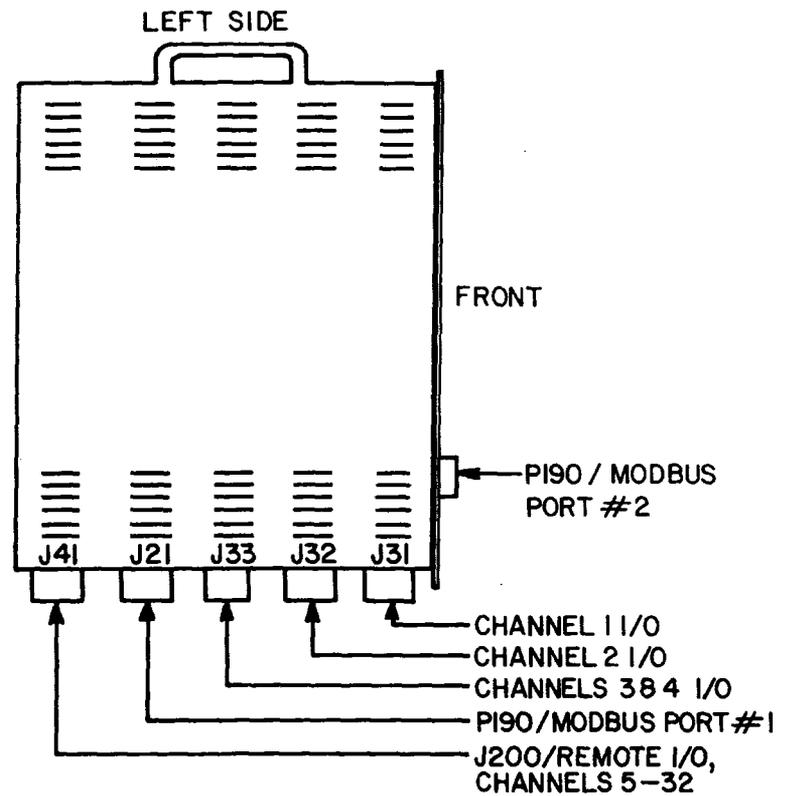

Figure 4-5. 584L Port's 1 and 2
4. If utilized, install J478 Modbus Modem (maximum two per mainframe) within 50 feet (15.24 meters) of the controller. Cable W192 is used to connect the modem to the controller. Port 1 is next to rear connector on controller's bottom, and Port 2 is on front adjacent to the register access panel. See Figure 4-5.